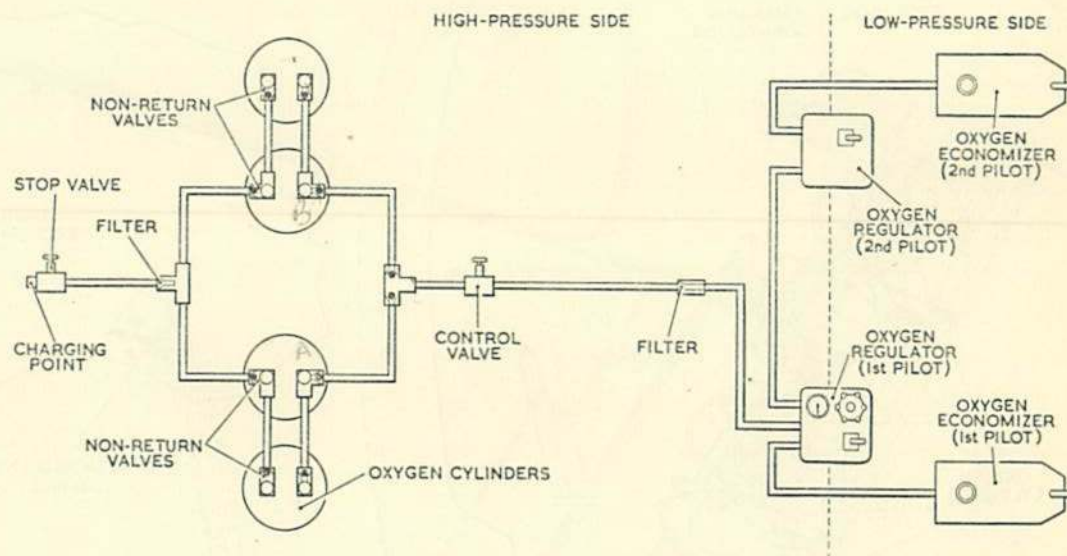
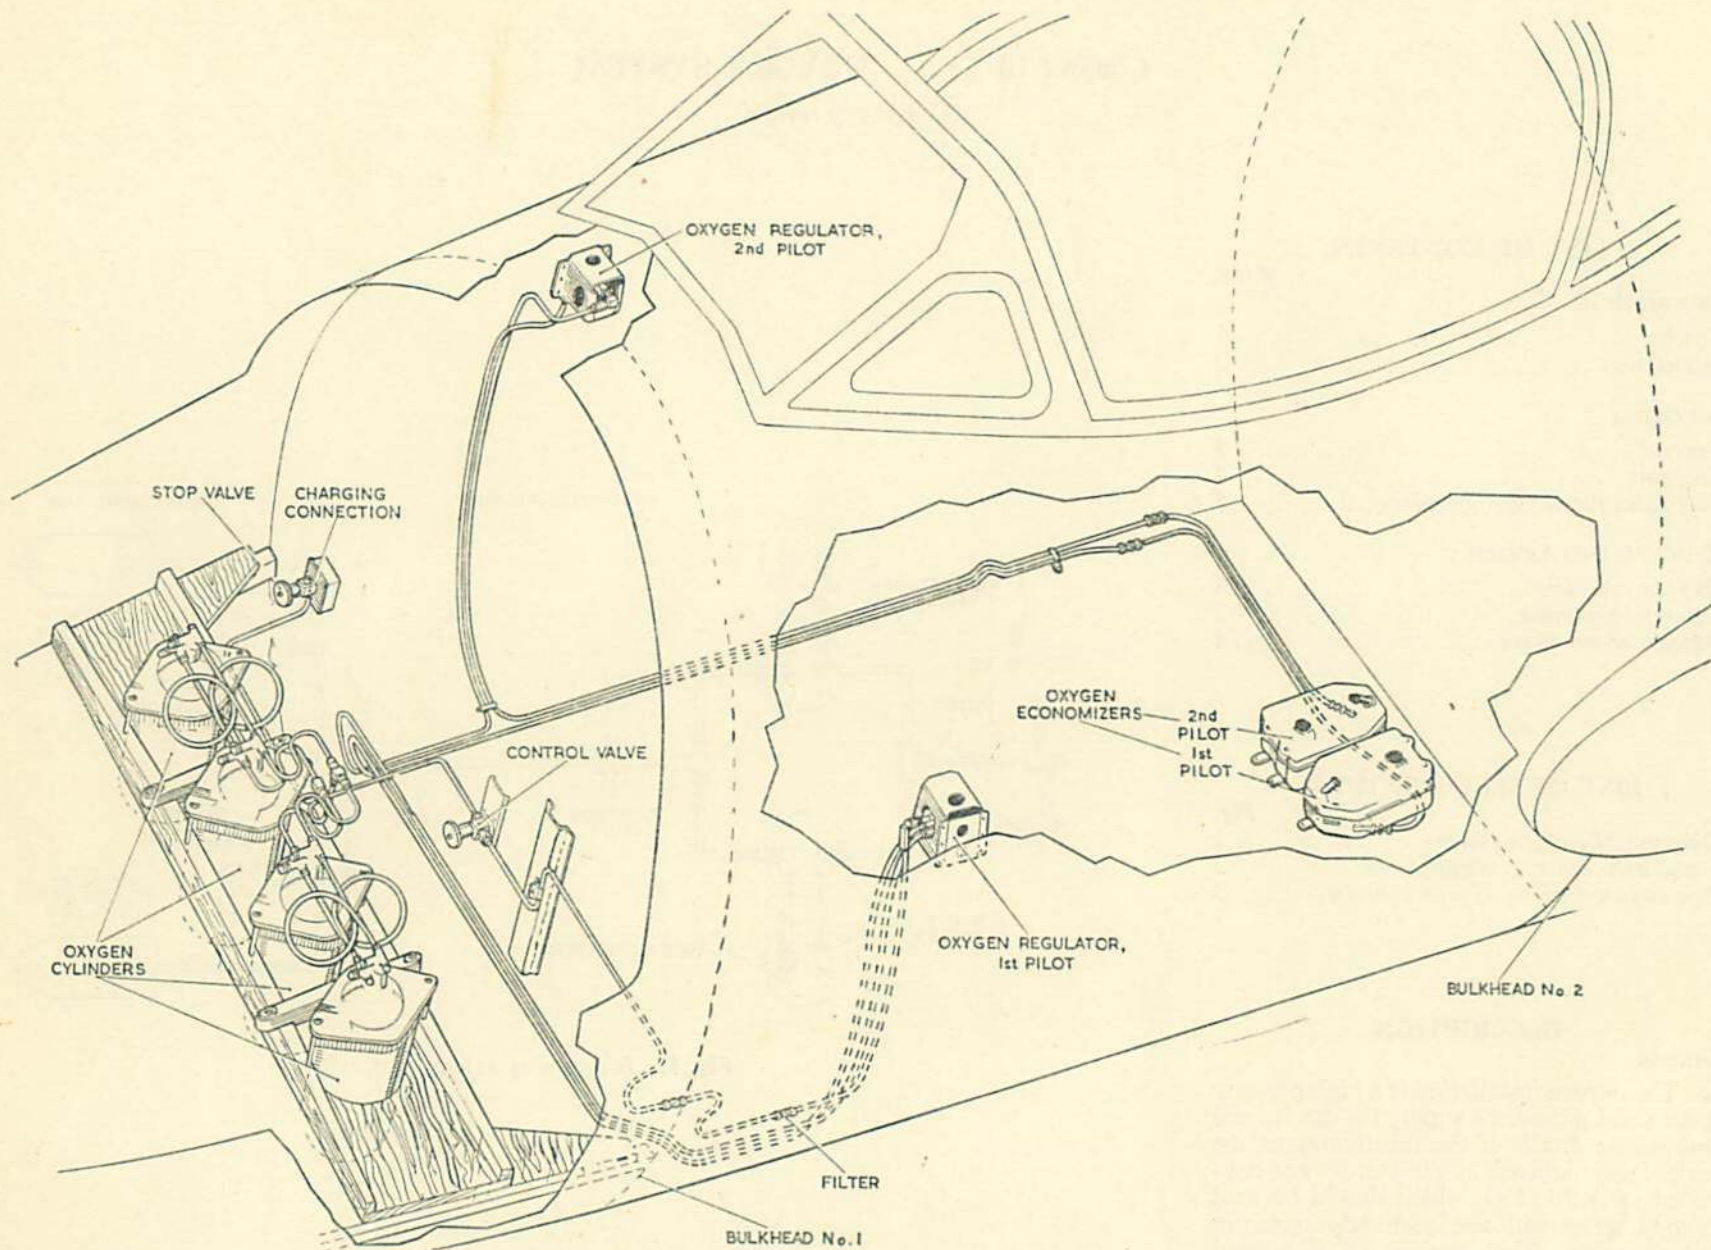

Fig. 1. Diagram of oxygen system
Fig. 2 Installation of oxygen equipment
1. The oxygen installation is a high-pressure system and provides a supply for the 1st and 2nd pilots; details of the functioning of the various components in the system are contained in A.P.1275G, which should be read in conjunction with the information given in this chapter. The system is illustrated diagrammatically in fig. 1, while fig. 2 shows the installation of the equipment and the pipe runs in the aircraft.